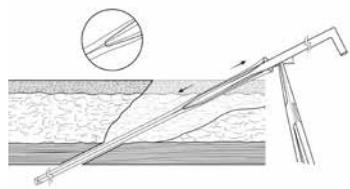

Figure 19
8. Insert the Small Dilator into the Luke Guide to dilate the Guide and the rectus muscle while holding the Luke Guide stationary with the hemostat (Figure 19).